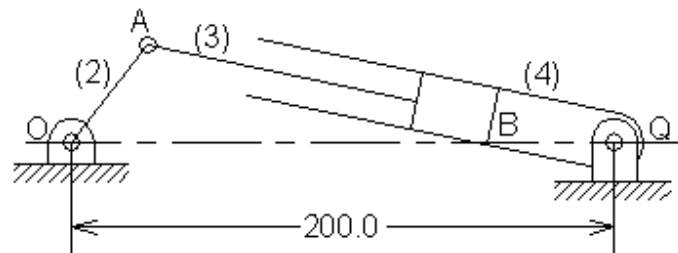

Figure P2.31
2.31 Crank (2) of the single slider crank inversion shown in Figure P2.31 rotates counter clockwise at 600 rpm. Find the sliding velocity and acceleration of the piston, and the angular velocity and angular acceleration of the cylinder. The crank is 45 mm and makes an angle 45° . The piston rod AB is 60 mm.